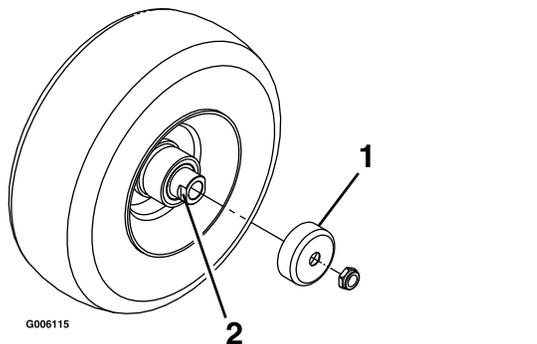

Figure 47
4. Remove the seal guards from the wheel hub (Figure 47).